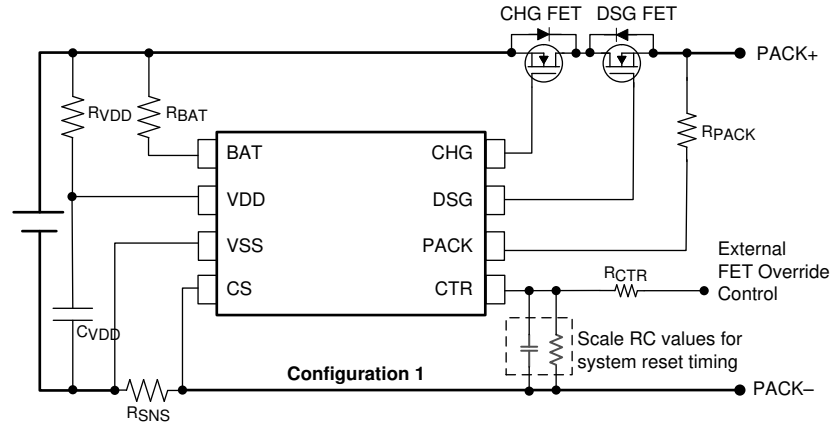

Figure 8-6. BQ298x Reference Schematic Configuration 1
- See Figure 8-6 for the schematic design.